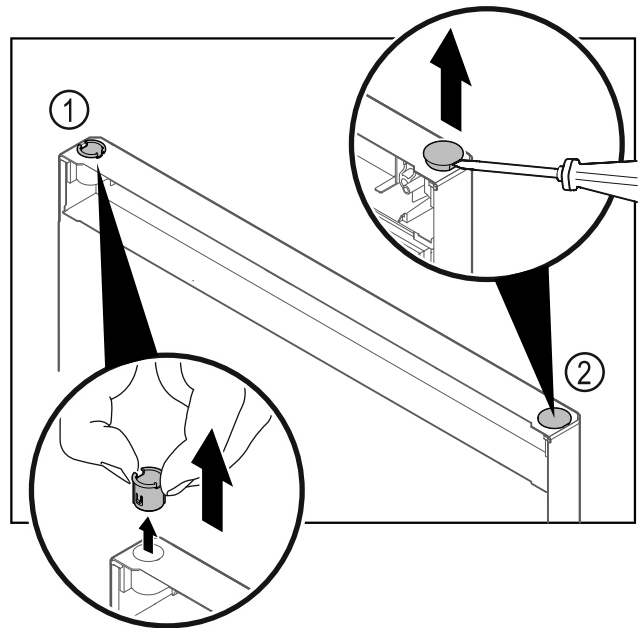

Fig. 48
- Pull out the hinge bushing Fig. 48 (1) with your fingers.
- Carefully lift the cover plug Fig. 48 (2) with a slotted screwdriver and pull it out.